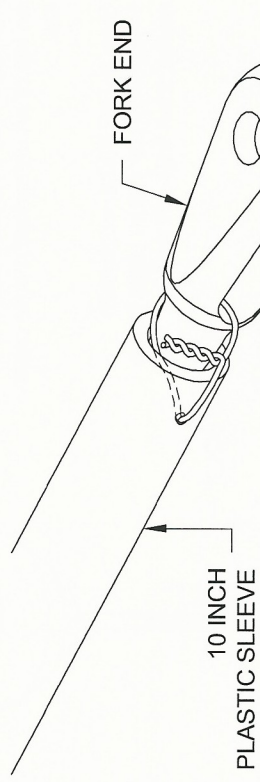

FIGURE 2: SAFETY WIRING THE PLASTIC SLEEVES
Step 3: Drill a #40 hole approximately 3/16 of an inch from the aft end of the 10 inch long plastic sleeve that is on both F-1239 Rudder Cables as shown in Figure 2.
Step 4: Pull the 10 inch long plastic sleeves over the shaft of the fork ends of the F-1239 Rudder Cables and safety wire them to the fork ends as shown in Figure 2.